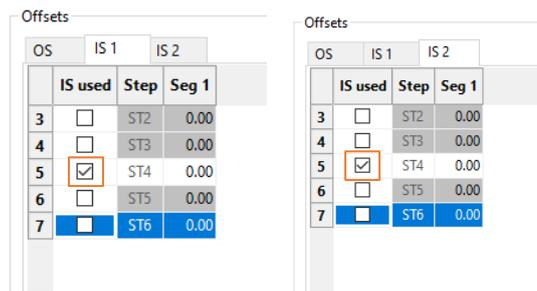

Figure 401
6. Since we just want to change the Cut of ST4 deactivate the added circles, managed by TAB IS1 and IS2, for all other steps (Figure 401).